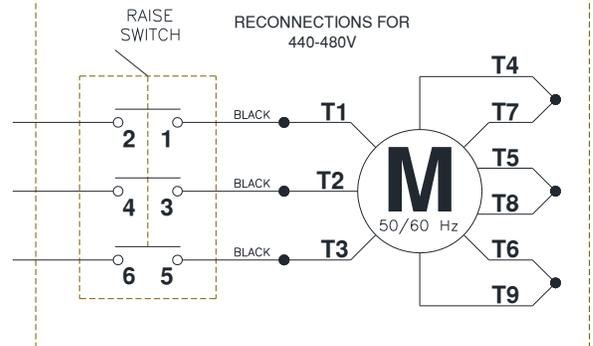

Fig. 7
18. Connect the power unit to an electrical source as shown in **Fig. 7** below.